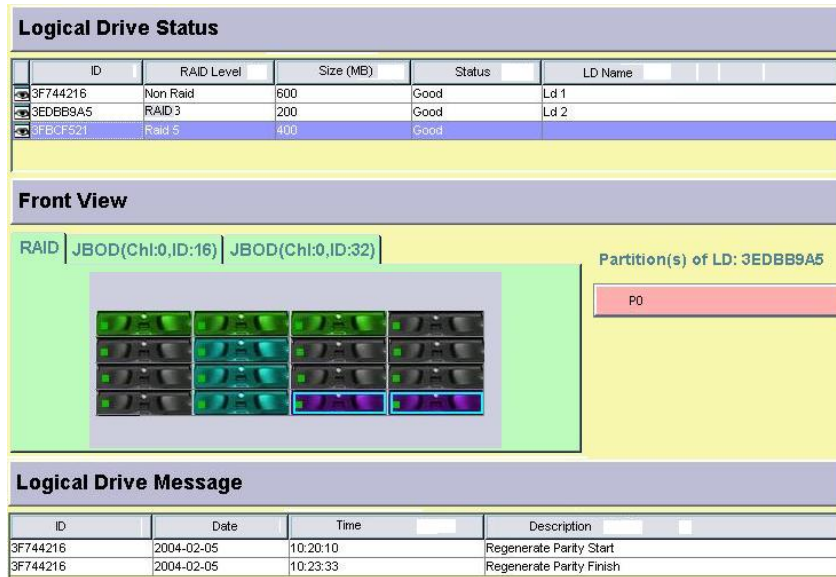

Figure 11-5: Opening Logical Drive Information Display
Step 1. To access the *Logical Drive Information*, single-click its display icon on the GUI navigation panel or select the command from the "Action" command menu. After opening the information window, select the logical drive with a single mouse-click. A display window as shown in *Figure 11-5* should appear.